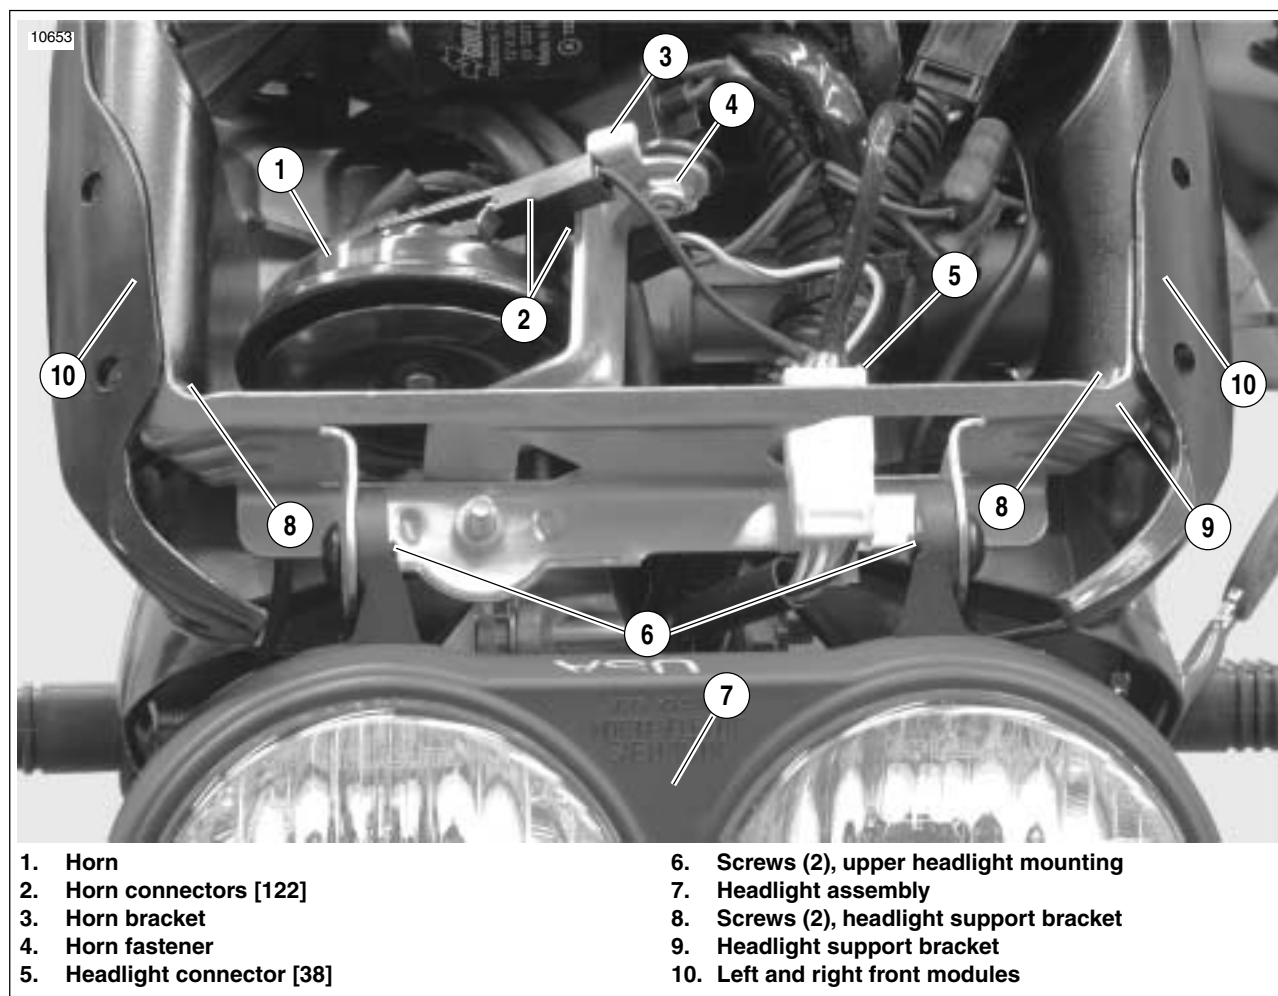

Figure 2-103. Headlight Assembly and Support Bracket
4. See Figure 2-103. Disconnect horn connectors [122] (2) and remove horn fastener (4) and horn (1).
5. See Figure 2-103. Disconnect headlight connector [38] (5).
- a. Remove both upper headlight assembly fasteners (6).
- c. Remove headlight assembly (7) from headlight support bracket (9).
8. Remove remaining two fasteners (8) securing headlight support bracket to left and right front modules (10).
9. Remove headlight support bracket (9) by sliding the left side of the bracket (on right side of vehicle) up, back and then out.